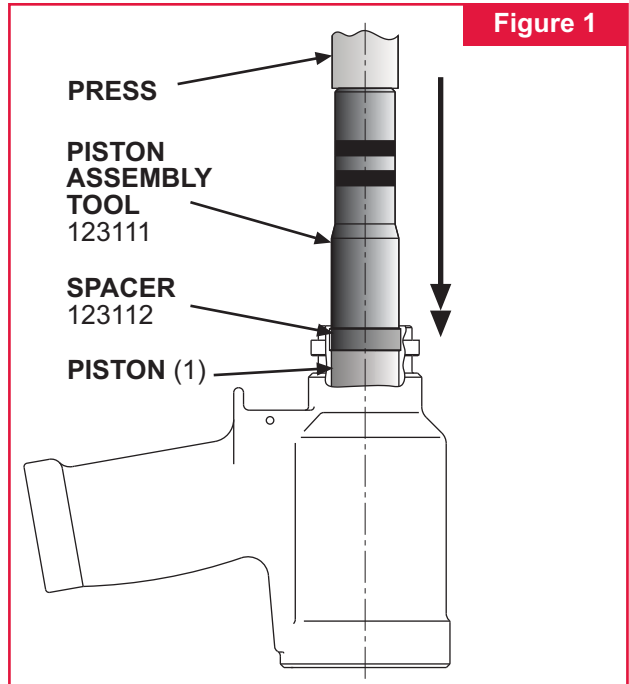

Figure 1
4. Push rearward on Piston (1) until remaining hydraulic fluid is drained into container. Discard fluid. **NOTE:** Do not remove hydraulic hoses from tool unless replacing hoses. If necessary to remove hoses, uncover hose fittings by sliding plastic shrouds back.
5. **NOTE:** Use this step **only** if the Switch, Wire or Connector needs repair. Remove Retaining Nut and Locking Ferrule from Strain Relief (28). Loosen Set Screw (29) and remove Switch (30). Loosen and remove the two wires from the switch. Remove cord from tool. Disassemble electrical connector (26).
6. Remove Pintail Deflector Assembly (14) by twisting and pulling in the same motion.
7. Remove Socket Head Screw (12) and Barbed Retainer (13) from Rear Gland (11).
9. Slide Spacer 123112 over threaded end of Piston (1). Screw
Piston Assembly Tool onto Piston. Press or drive Piston, Front Gland (8) and Rear Gland out of Cylinder. (Fig. 1) Place hose ends in container to catch oil that is forced out by piston.
11. Remove Piston Assembly Tool and Spacer (Fig. 1).